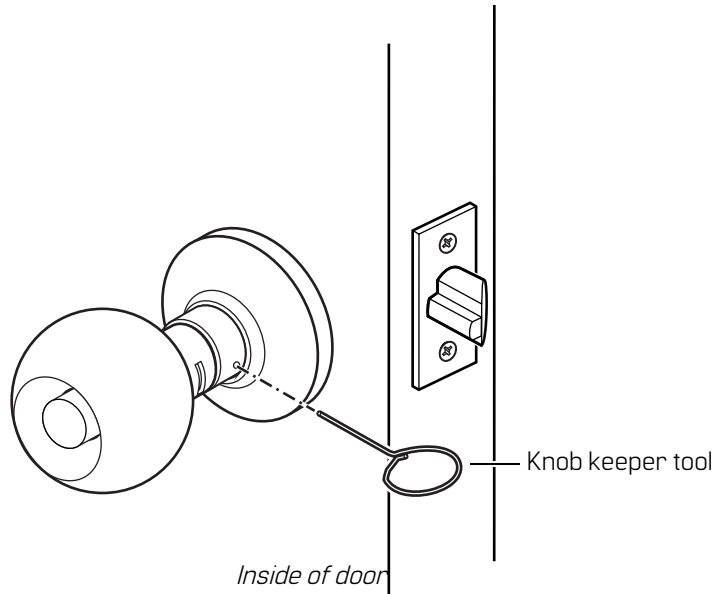

Figure 3.2 Removing the knob
2. Insert the knob keeper tool into the hole on the trim ring, as shown in Figure 3.2. Slide the knob off of the sleeve.